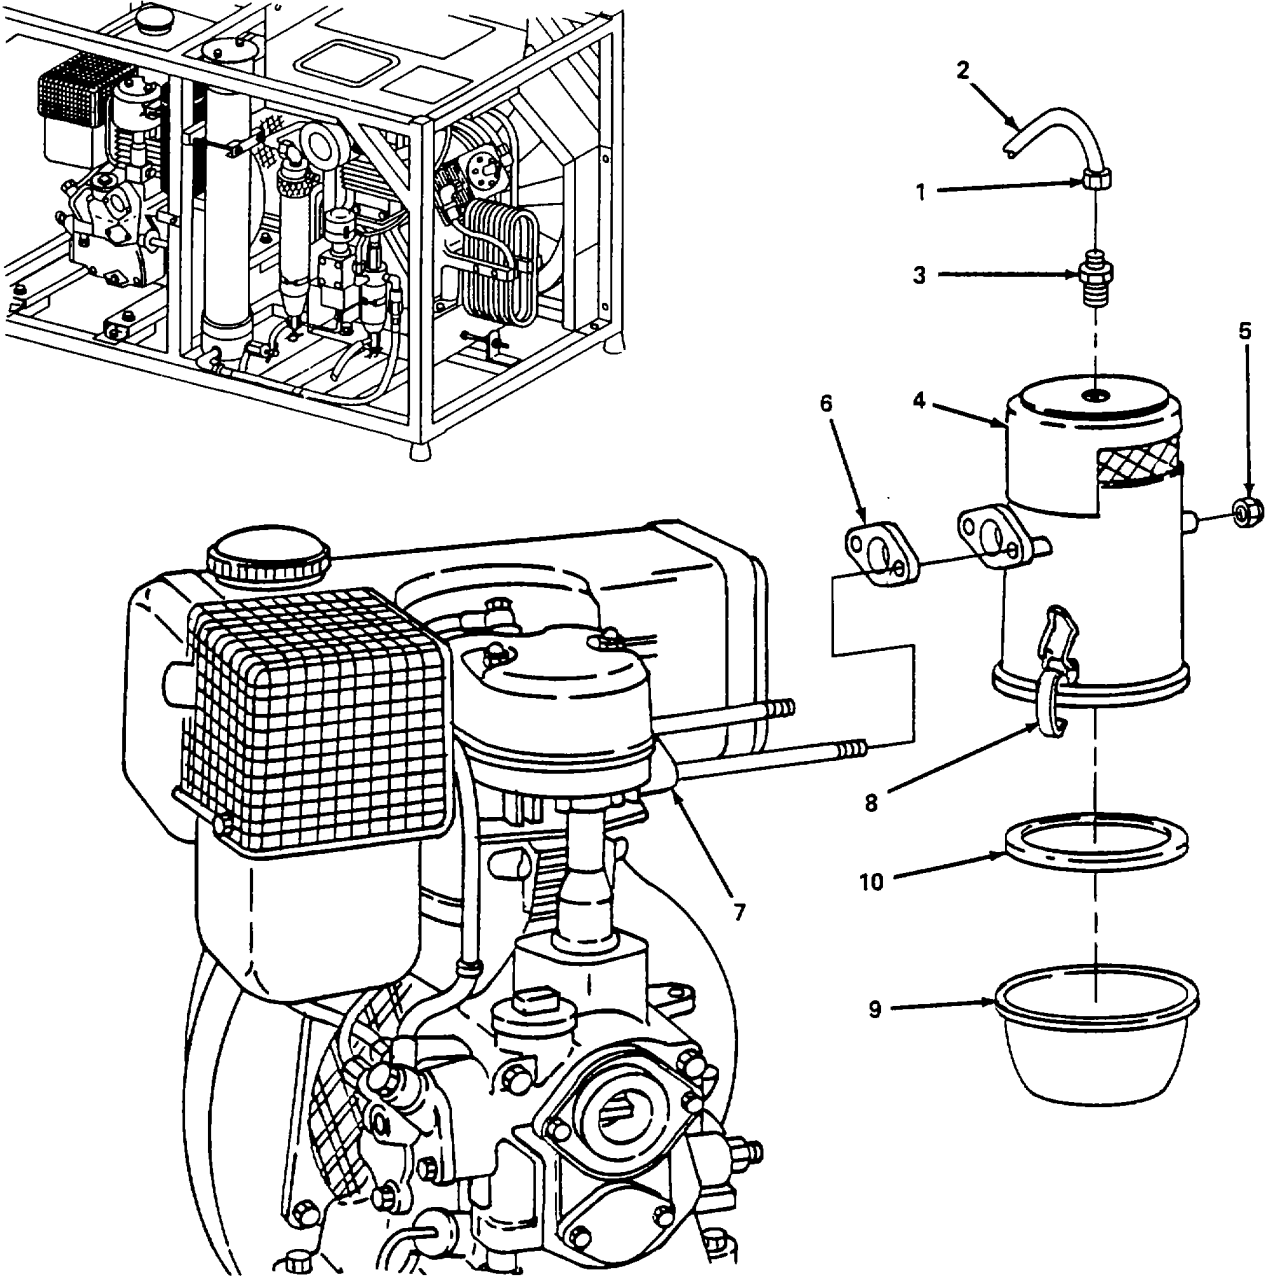

Figure 4-24. Air Filter, Replace.
**4-26. Engine Air Cleaner Assembly (Cont).****b. Replace.** (figure 4-24)
- (1) Loosen connector nut (1) and disconnect line (2).
- (2) Remove atomizer (3) from air filter (4).
- (3) Remove two nuts (5), air filter (4), and gasket (6). Discard gasket (6).
- (4) Ensure gasket mounting surfaces are clean and old gasket material removed.
- (5) Install new gasket (6), air filter (4) and secure with two nuts (5).
- (6) Note orifice in atomizer (3).
- (7) Install atomizer (3) in air filter (4) ensure orifice is pointing directly at cylinder head (7).
- (8) Install line (2) and tighten connector nut (1).